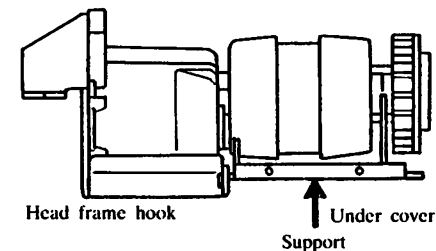

Fig. 5
- (6) Hook the Lower cover on the Head frame and push the lower cover into the Head cover. Then tighten the 4 screws with supporting the under cover. (Refer to Fig. 5)